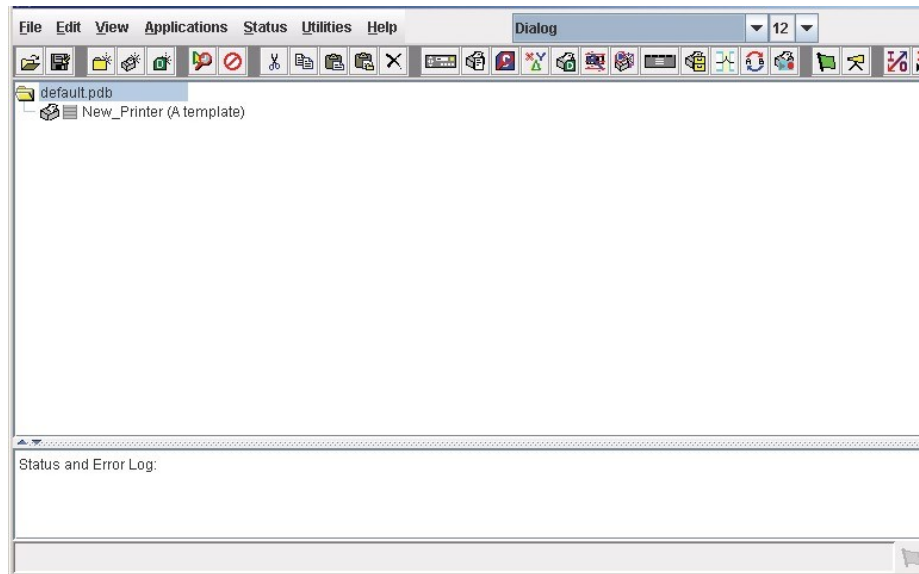

Figure 1 Printer Database Main Window
2. From your operating system, launch PNE Auto ID. Click the splash screen to see the main window of the printer database more clearly. See Figure 1.